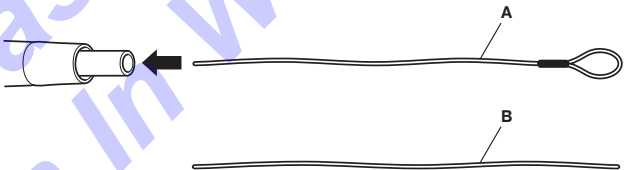

Figure 106 – Cleaning Wire Insertion
1. Insert a cleaning wire into the tip aspiration port and handpiece suction lumen to dislodge and remove debris (Figure 106).